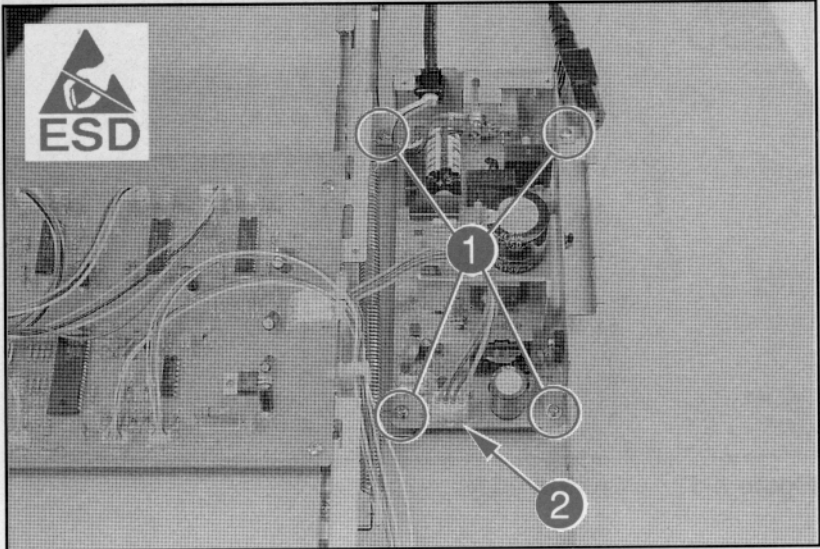

Figure A-18 Power PCA
- 1** Remove the (6) cover screws, (4) on the top and (2) on the side. Remove the cover.
- 2** Remove the (4) screws from the Power PCA (see Figure A-18, callout 1).
- 3** Unplug the connector (see Figure A-18, callout 2).